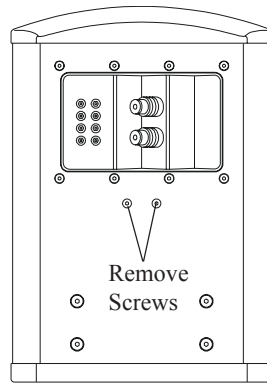

Figure 14
- Using the supplied Allen Wrench, remove two screws from the rear of the XLS320 Loudspeaker System located below the recessed connection plate. Refer to figure 14 on the next page.